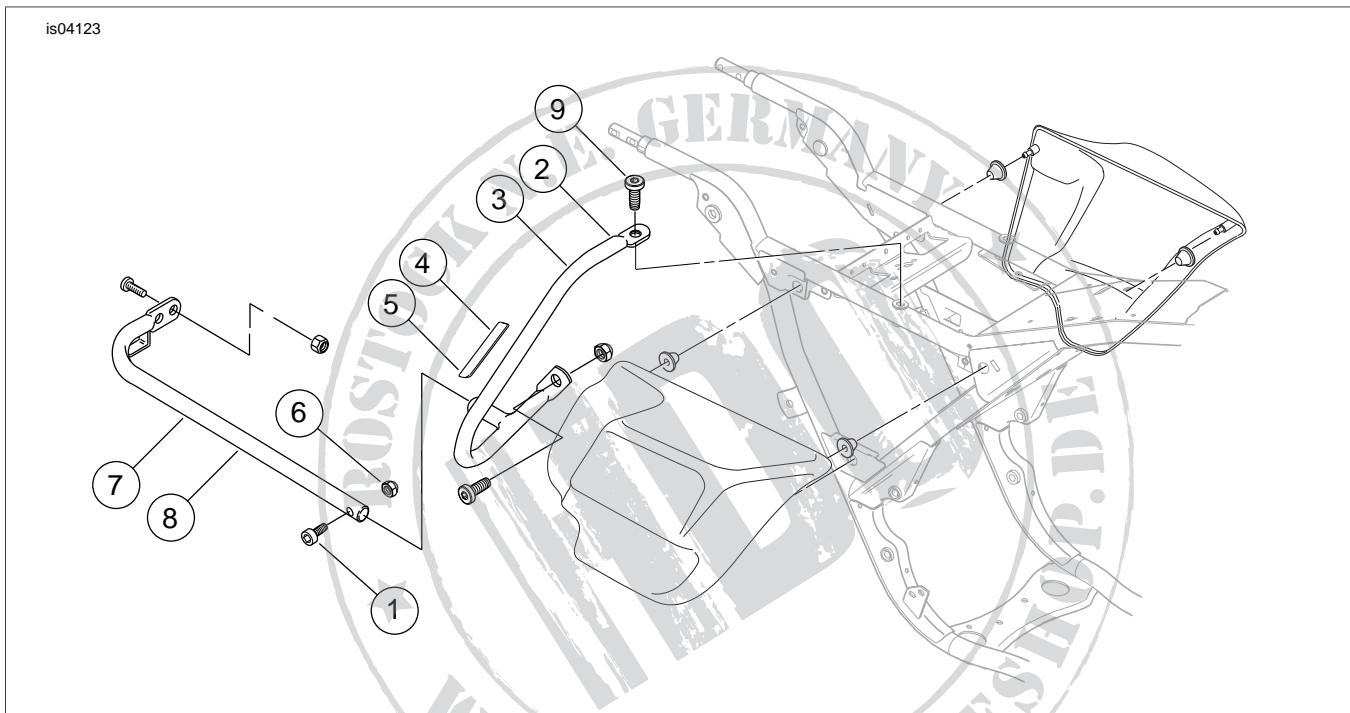

Figure 2. Chrome Rear Saddlebag Guard Kit
See Figure 2 and Table 1.
8. See Figure 2. Take the left or right side rear saddlebag guard (Dresser bar) from the kit and place in position matching the holes in the vehicle frame. The new front side guards are side-specific. Lift the lower support bar and insert the tube end into the receptacle on the rear saddlebag side guard. Obtain a 1/4-20 x 1-1/4 socket head screw (1) and 1/4-20 locknut (6) from the kit. Align the holes and insert the 1/4-20 x 1-1/4 screw through the tubes and loosely thread on the 1/4-20 locknut.
9. Using a T-40 TORX drive head, thread in a 3/8-16 screw (9) from kit through the top flange of the new side guard and into the horizontal frame tube. Do not tighten.